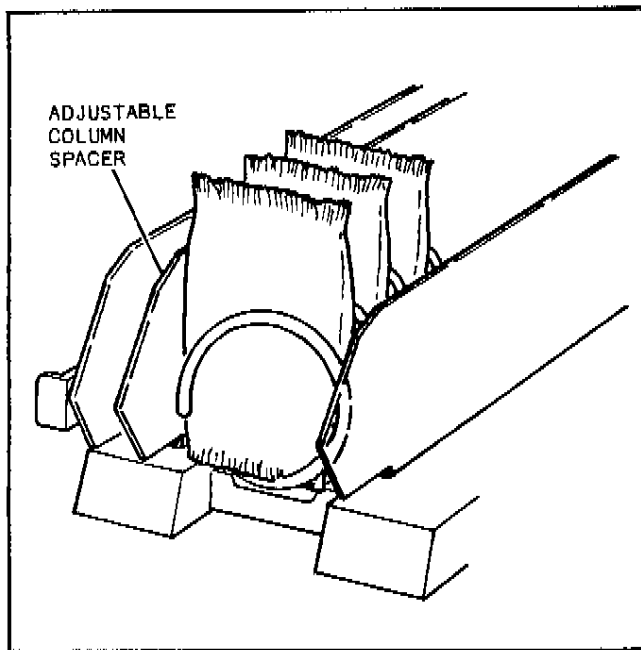

Figure 2-2. Thin Product Loading
3. Positioning a thin packaged product such as microwave popcorn should be used in a 15, 20 or 25 count snack spiral, placing the package upright in the spiral (see Figure 2-2).